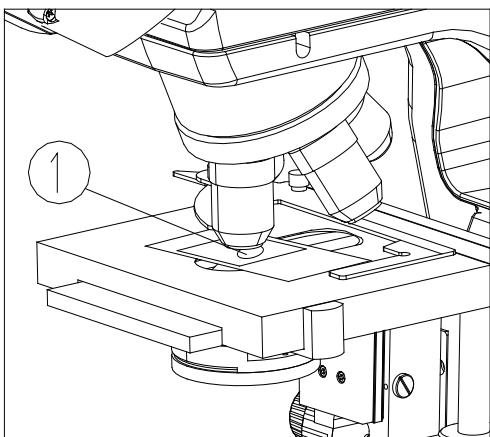

Fig. 15
2. Place one drop of immersion oil on the lighted area of the specimen slide ① (Fig 15). Dust or air bubbles in the oil can destroy the definition of the image. If the bubbles are trapped between the objective lens and the slide, clean off the oil and start again or try to eliminate the bubble by rotating the objective back and forth.